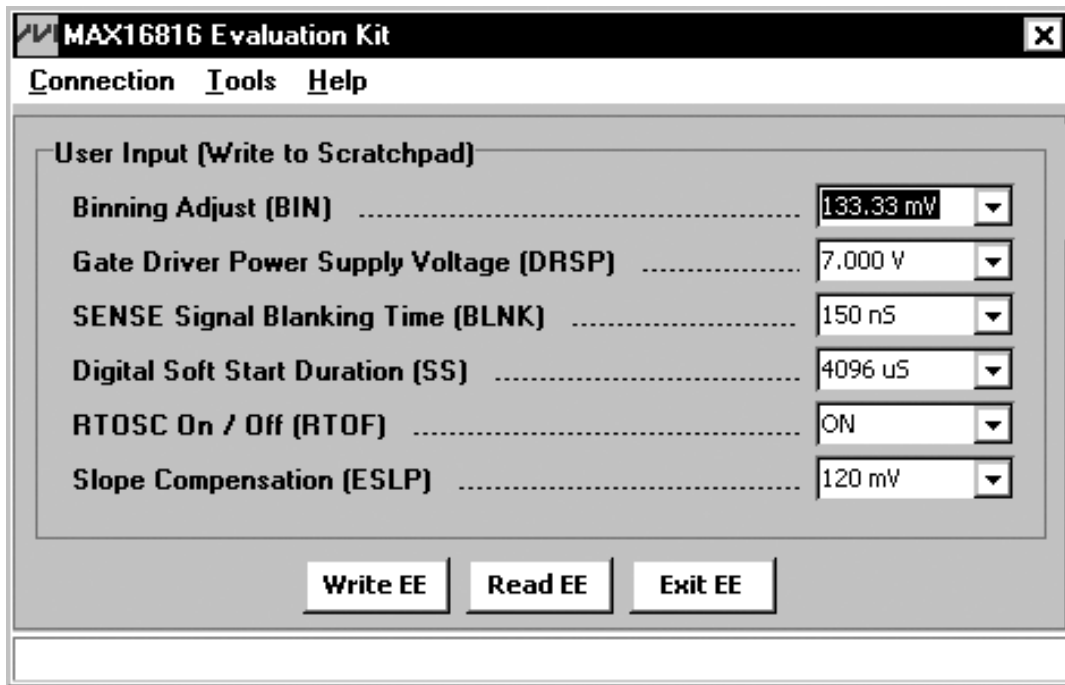

Figure 1. MAX16816 EV kit Software Main Window
- 15) Start the MAX16816 EV kit software by opening its icon in the **Start | Programs** menu. The EV kit software main window appears, as shown in Figure 1.
The main window of the MAX16816 EV kit software (Figure 1) displays a drop-down list for each of the MAX16816 IC's programmable features. The drop-down lists adjust the following programmable features: LED current (binning), external MOSFET gate driver supply voltage, leading-edge blanking time, digital soft-start duration, RTSYNC oscillator enable/disable, and slope compensation.